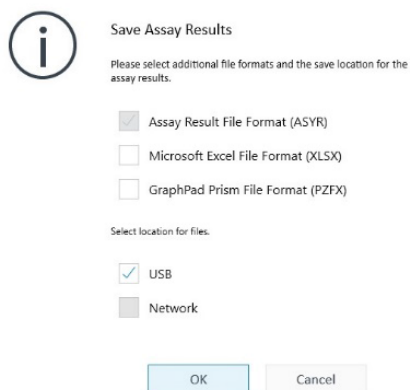

Figure 12. Save results.
- 8 After the assay is complete, the data is automatically saved to a USB flash drive (if inserted), the local drive, or the networked drive (if configured). A message appears indicating the location of the save assay result File (\*.asyr). See Figure 12.
- 9 After the assay is complete, data is automatically saved on the assay result file format to the location specified at the start of your assay (USB flash drive, network location, or locally). It is mandatory to save result data in the assay result file format after completing the assay and will always be checked ON. You can also save result data as an Excel file (.xlsx) and GraphPad Prism file (.pzfx) directly from the XFp Analyzer as well. Check the box next to the desired file formats and click **OK** (Figure 12 on page 22).